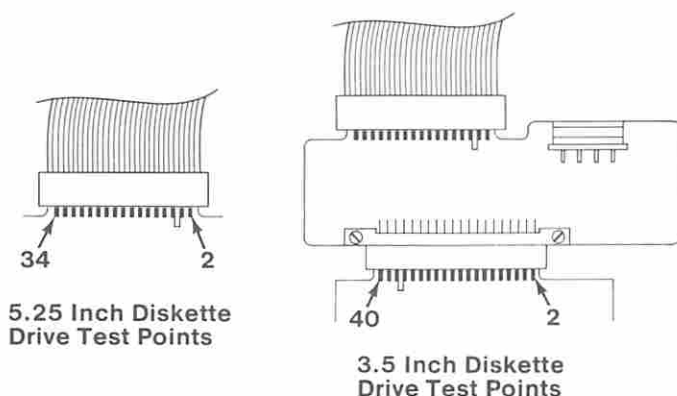

Figure 15. Voltage Check
- Power on the system and monitor the voltage at pin 18 of diskette drive A (Figure 15 on page 0600-22). The voltage should decrease from approximately 5 Vdc at the start of the POST to approximately 0 Vdc before the beep at the end of the POST.